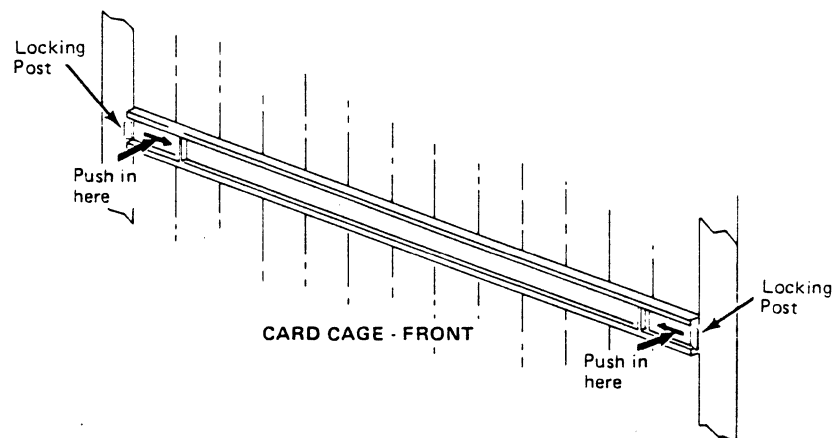

Figure 7-16. Removal of Card Retainer Bar
18. Remove the card retainer bar (PN 6431234) in the card cage by pressing the center of the locking posts in with a blunt object (such as a pencil or pen). Slide the locking posts toward the center of the bar (Figure 7-16).